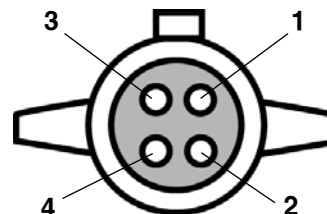

Figure 11
2. Wire the plug to match your vehicle, or follow Figure 11. Apply a silicone sealant to the wires where they attach to the plug – this will help prevent damage from moisture and corrosion.